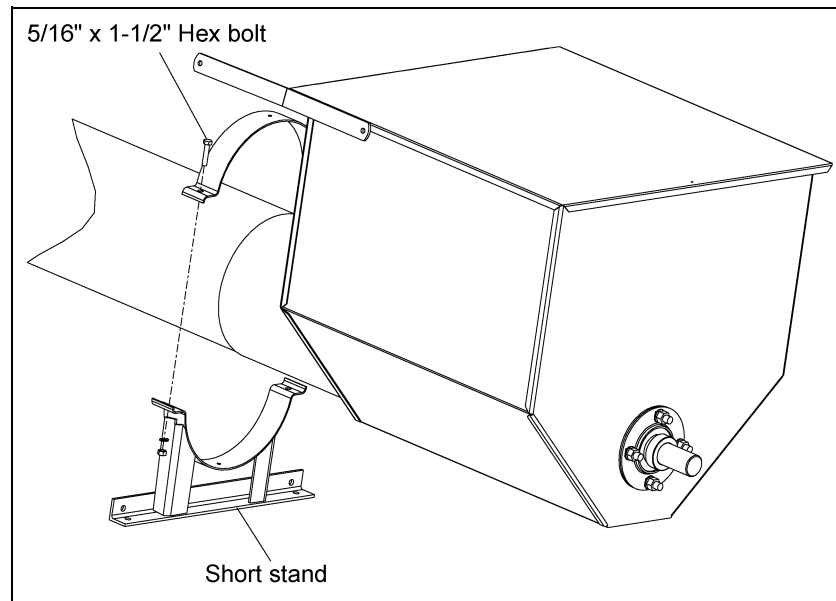

Figure 4T
- B. Install the shortest stand as close to the intake hopper as possible. Positioning the stand as close as possible to the hopper will help to distribute the hoppers weight. (See Figure 4T.)